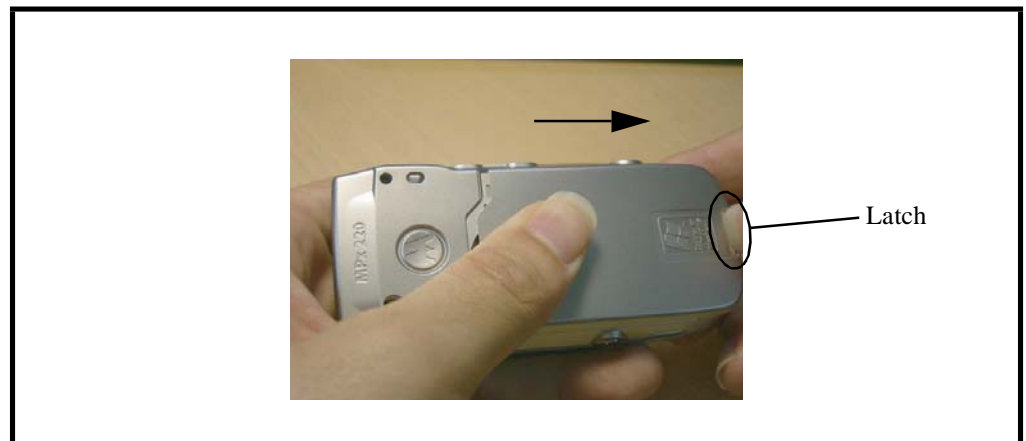

Figure 4. Removing the Battery Door
2. Remove the battery door by pressing the latch and sliding the battery door right and away from the phone as shown in Figure 4.